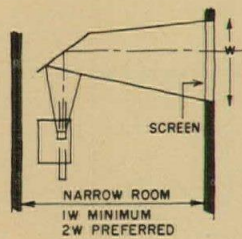

Figure 23: Folding light beam in narrow room
4. If the space behind the screen is shallow, the beam can be folded further downstream, and a larger mirror used, shown in figure 23. All mirrors should be front surface reflectors to avoid parallax. Slide projectors do not require image inversion mirrors as the slide itself can be inverted.